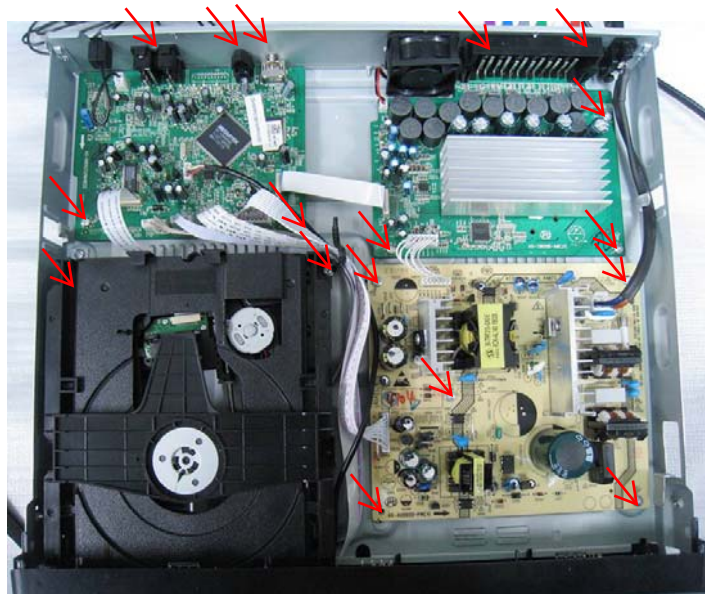

Figure 5
Step5: Dismantle Loader, disconnect the 3 connectors (XP3, XP2, XP6) aiming in the below figure, and remove 2 screws that connects the loader and the bottom cabinet. (Figure 5)
Step6: Dismantle Main Board, first disconnect 2 connectors (XP1, XP11), and then remove 5 screws. (Figure 5/6)
Step7: Dismantle Power Board, disconnect the connectors XP702 and CN501 on Power Board,then remove 5 screws.(Figure 5/6)
Step8: Dismantle Amplifier Board, remove 5 screws (Figure 5/6)